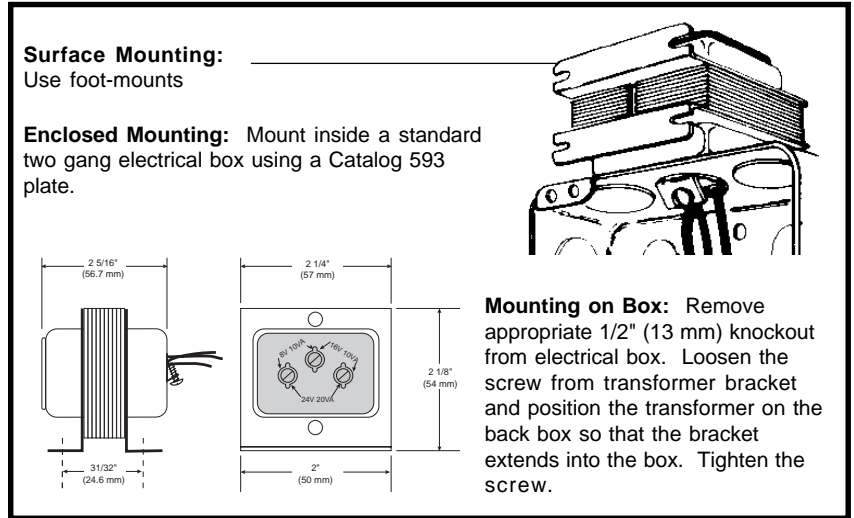

Figure 3. Catalog No. 592 Transformer
- a. Select a metal electrical box that can be grounded. Mount the transformer onto the electrical box (Figure 3) so that it has ground continuity to the box and conduit system.